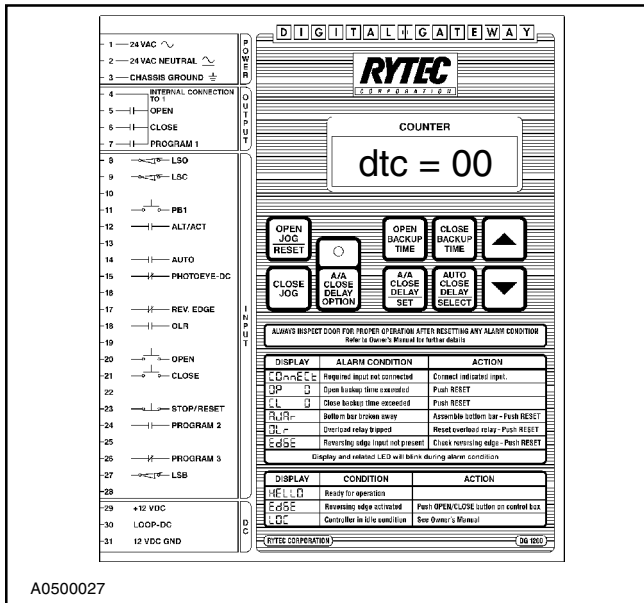

Figure 23
7. When a timer is associated with an option, the display will show the code for the option and the timer setting. Use the UP and DOWN arrow keys to set the timers. Figure 23 shows the Delay To Close timer set to 0 seconds. Use the Set button to return to the Main Program menu.